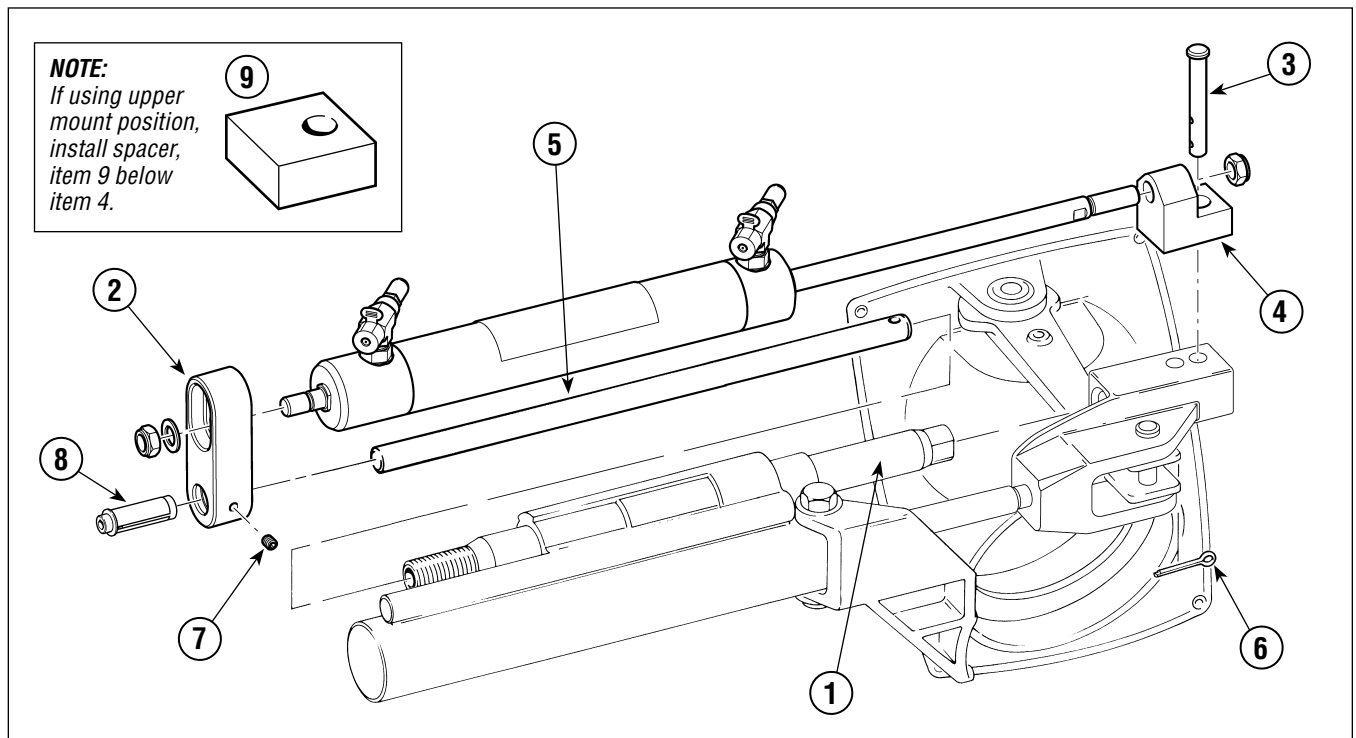

Figure 12. HC5331-3 (92-VPS), **NOT for use with SeaStar PRO helm(s).**
Referring to Figure 12 please observe the following:
Cut Clevis Pin, (item 3 Figure 12) to a length of 2" when mounting cylinder in lower position.